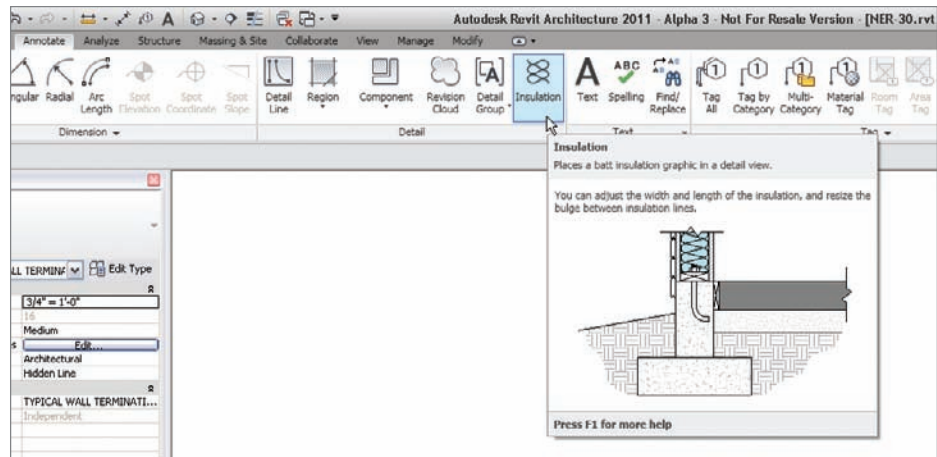

FIGURE 12.78 The Insulation button on the Detail panel of the Annotate tab
4. On the Detail panel of the Annotate tab, click the Insulation button, as shown in Figure 12.78.